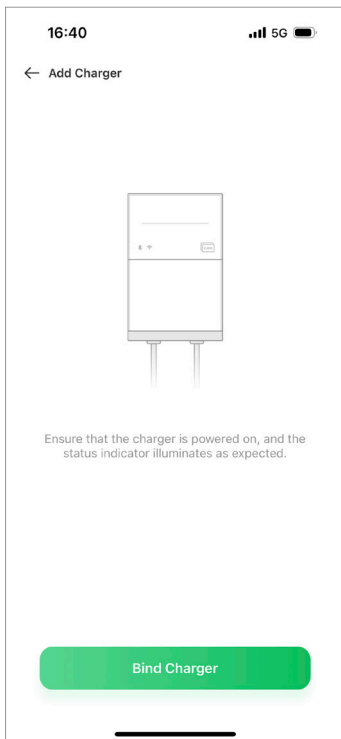
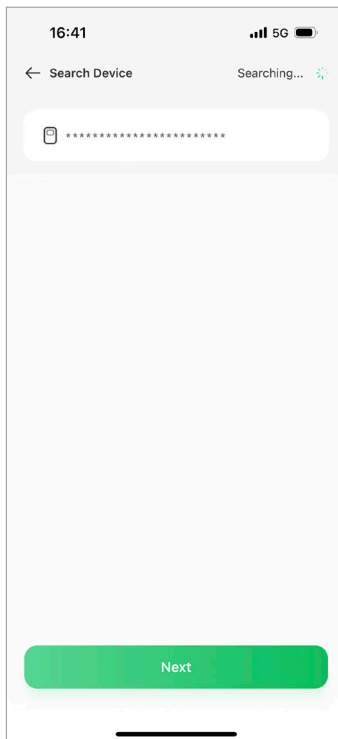

Fig. 5-7
Fig. 5-8
3. Tap "Bind Charger" (See Fig. 5-7). Select the target device when the scanning completes. (See Fig. 5-8)